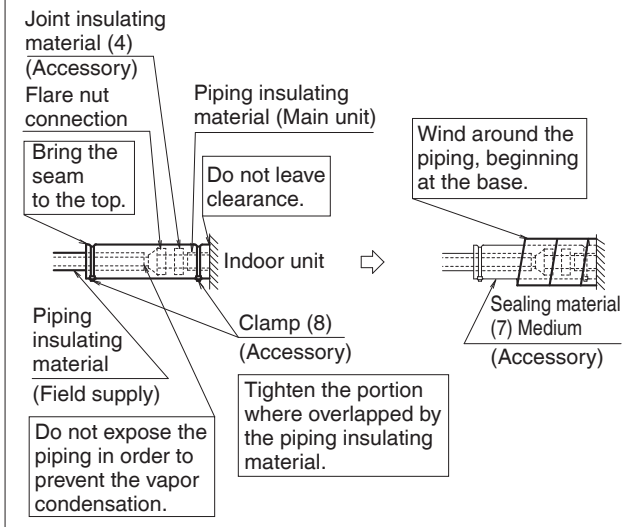

Fig. 11
- After leak test, referring to **Fig. 11**, insulate both the gas and liquid piping connection with the attached joint insulating material (4) and (5) to prevent the pipings from getting exposed.
After all the brazing works are finished, carry out flare connection with the indoor unit. (**Refer to Fig. 11**)